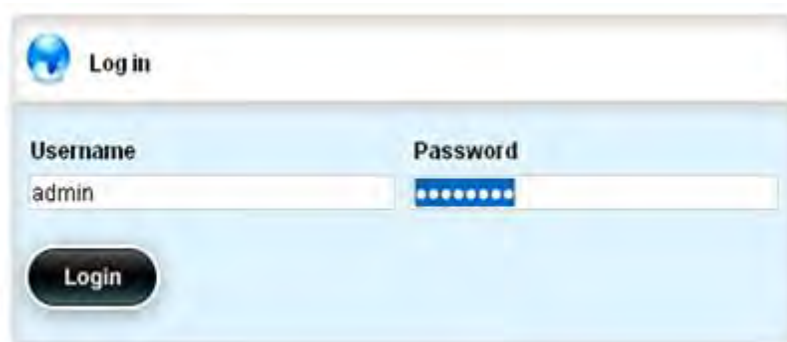

Figure 8 Web GUI Interface Login Page
3. The login page is displayed in Figure 8. The default Username and Password are: